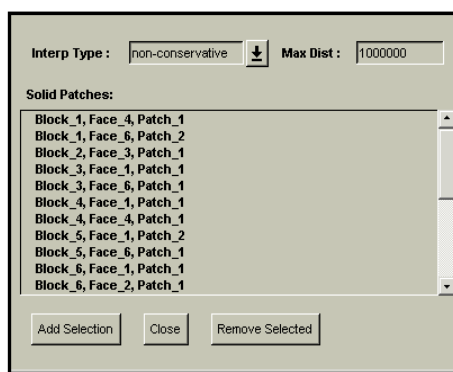

FIGURE 10.2.5-14 Add solid patches to ANSYS surface
Then, the user specifies the solid CFD patches in the list of **Solid Patches** by <Ctrl> or <Shift> and left-click. To add or remove solid patches linked to the highlighted ANSYS surface, the buttons *Add Selection* and *Remove Selected* are used respectively. When the solid patches are well selected, the window has to be closed (*Close*) and the patches will appear in the list **Selected Solid Patches and Groups** (Figure 10.2.5-13 - (3)).